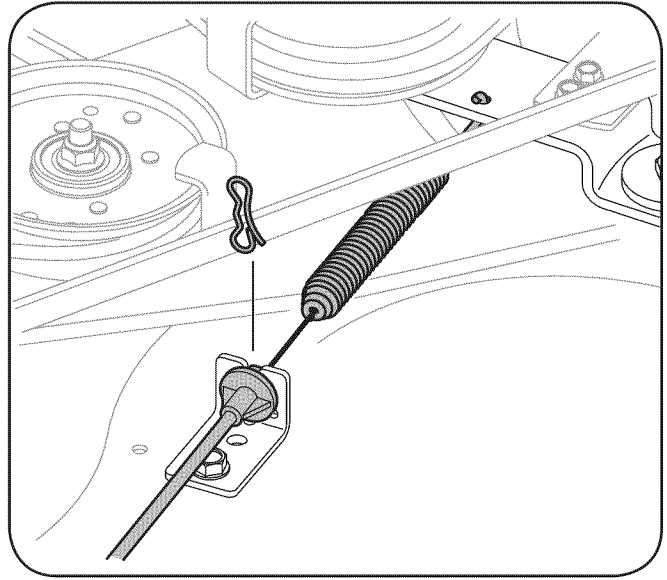

Figure 7-5
- Carefully remove the PTO cable from the rear of the cutting deck by removing the hair pin clip which secures it. Remove the spring from the deck idler bracket. See Fig. 7-5